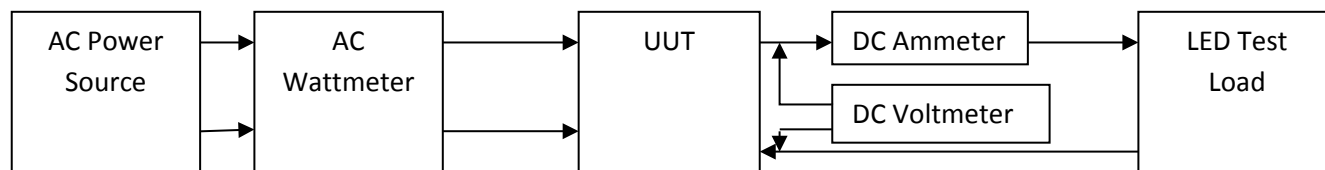

Figure 7. Test Set Up
1. Connect the LED Load to the red(+) and black(-) leads through the ammeter shown in Figure 7. **Caution: Observe the correct polarity or the load may be damaged.**
2. Connect the AC power to the input of the AC wattmeter shown in Figure 7. Connect the white leads to the output of the AC wattmeter
3. Connect the DC voltmeter as shown in Figure 7.